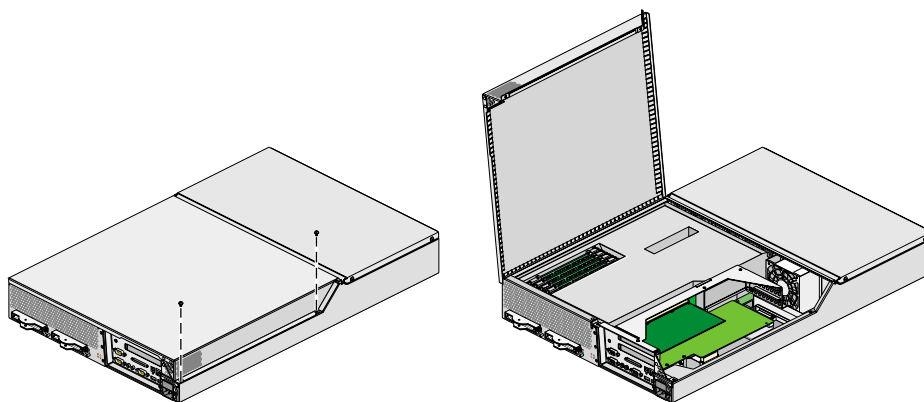

Figure 4-5 Opening Server to Remove PCI Card
5. To access the PCI card, remove the two screws shown in Figure 4-5 and lift and remove the hinged cover.